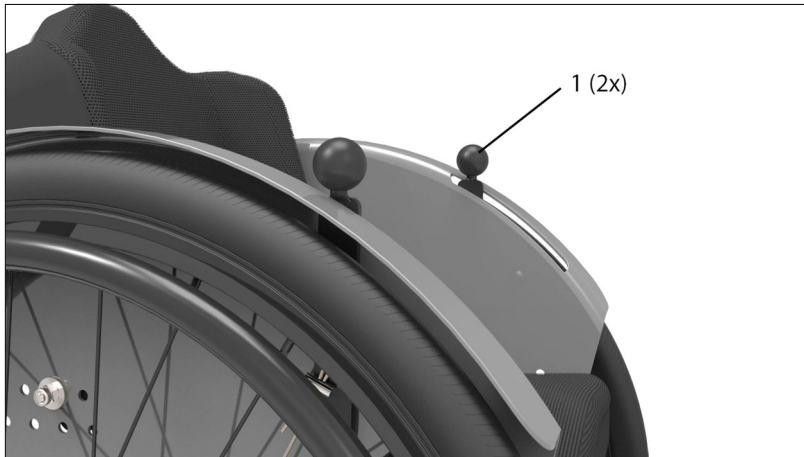

Figure 24: Wheel lock lever
1. Push the wheel lock lever (see Figure 24) forward (viewed from the sitting position) to bring the wheel lock into the parking position.